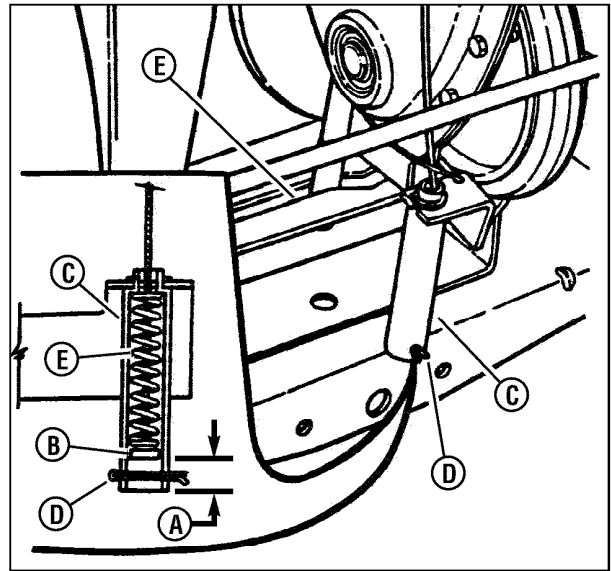

Figure 40: Adjusting the brake cable
5. Measure the distance (**A, Figure 40**) between the end of the clutch/brake cable (**B**) and the bottom of the housing (**C**). The measurement should be 3/4".
NOTE: The cotter pin, brake spring, and clutch yoke (D, E, and F, Figure 40) are noted for reference purposes only.
7. Adjust the cable up or down using the jam-nuts to obtain a distance of 3/4" between the end of the clutch/brake cable (adjustment shown in inset of Figure 40) and the bottom of the housing.
5. Move the transmission shift lever to the neutral (N) position.
6. Rotate the clutch yoke (F, Figure 40) out with your hand and work the belt between the drive disc and the rubber driven disc.